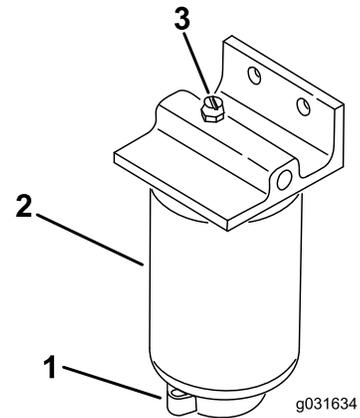

Figure 49
2. Loosen the drain valve on the bottom of the filter (Figure 49).
1. Clean the area where the filter mounts (Figure 49).